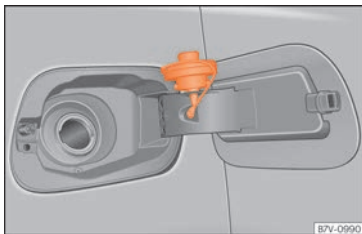

**Fig. 280** Fuel tank flap with tank cap attached.
- Place it in the space on the hinge of the open flap »» Fig. 280.